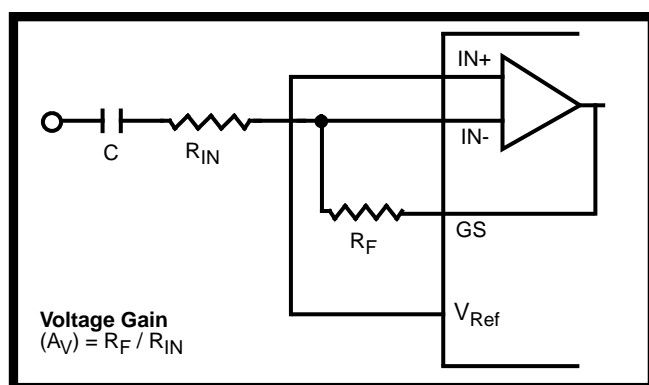
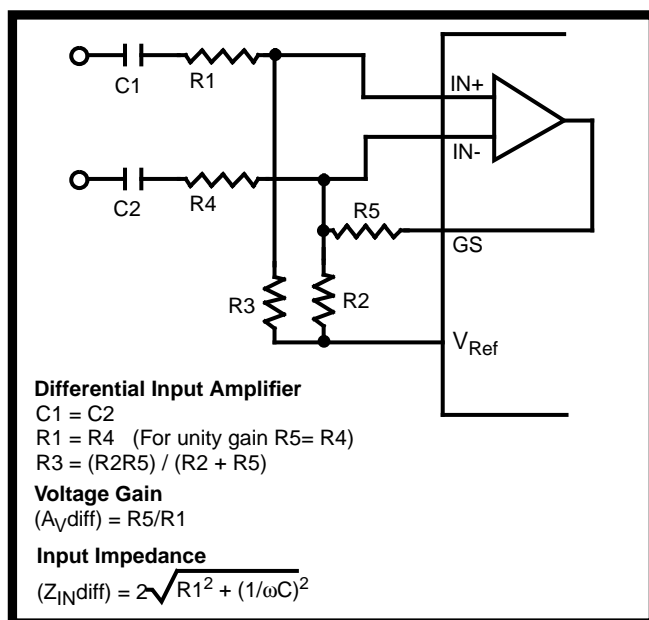

Figure 6 - Single-Ended Input Configuration
Figure 7 - Differential Input Configuration
The MT8843 provides an input arrangement comprised of an operational amplifier and a bias source (V_{Ref}); which is used to bias the opamp inputs at $V_{DD}/2$. The feedback resistor at the opamp output (GS) can be used to adjust the gain. In a single-ended configuration, the opamp is connected as shown in Figure 6. For a differential input configuration, Figure 7 shows the necessary connections.